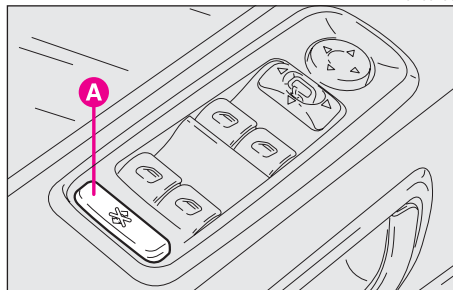

fig. 13
### SECOND ROW CONTROL ELECTRIC DEACTIVATION fig. 13
**Closing:** close the door and press button **A**-fig. 13.